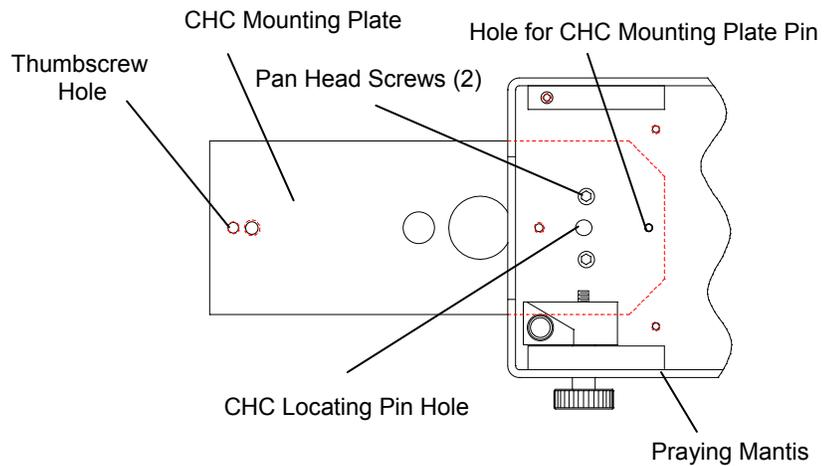

Figure 27 • Installing the CHC Mounting Plate (Top View)
- Locate the CHC mounting plate pin in the hole in the bottom of the Praying Mantis™ (see Figure 27).